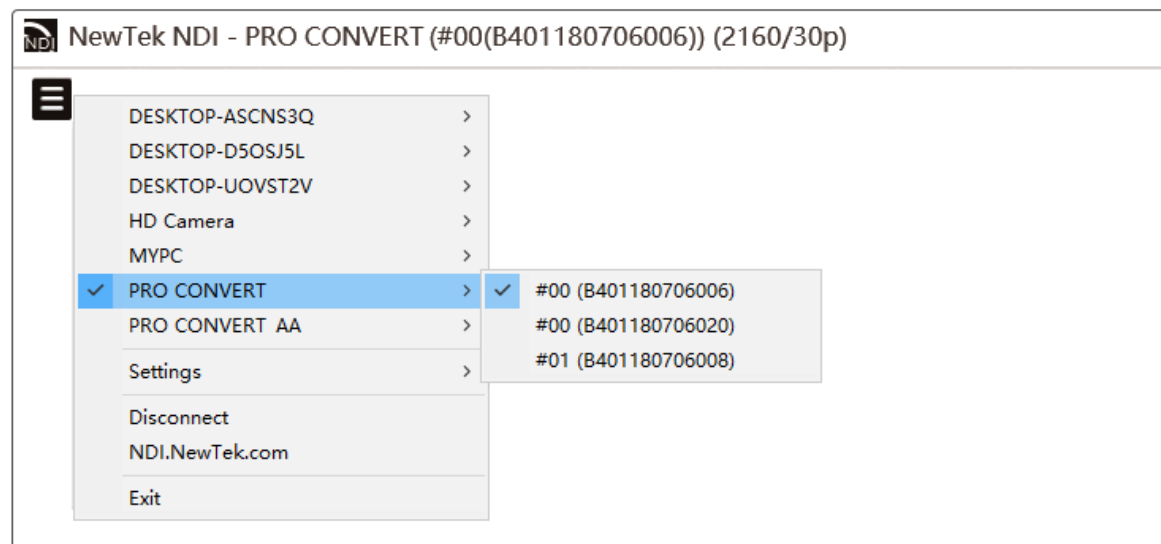

Figure1. Select NDI stream in NDI Studio Monitor
**Step 1** Connect your converter via Ethernet and power it up as shown in the Figure1. Connections in Solution 1.